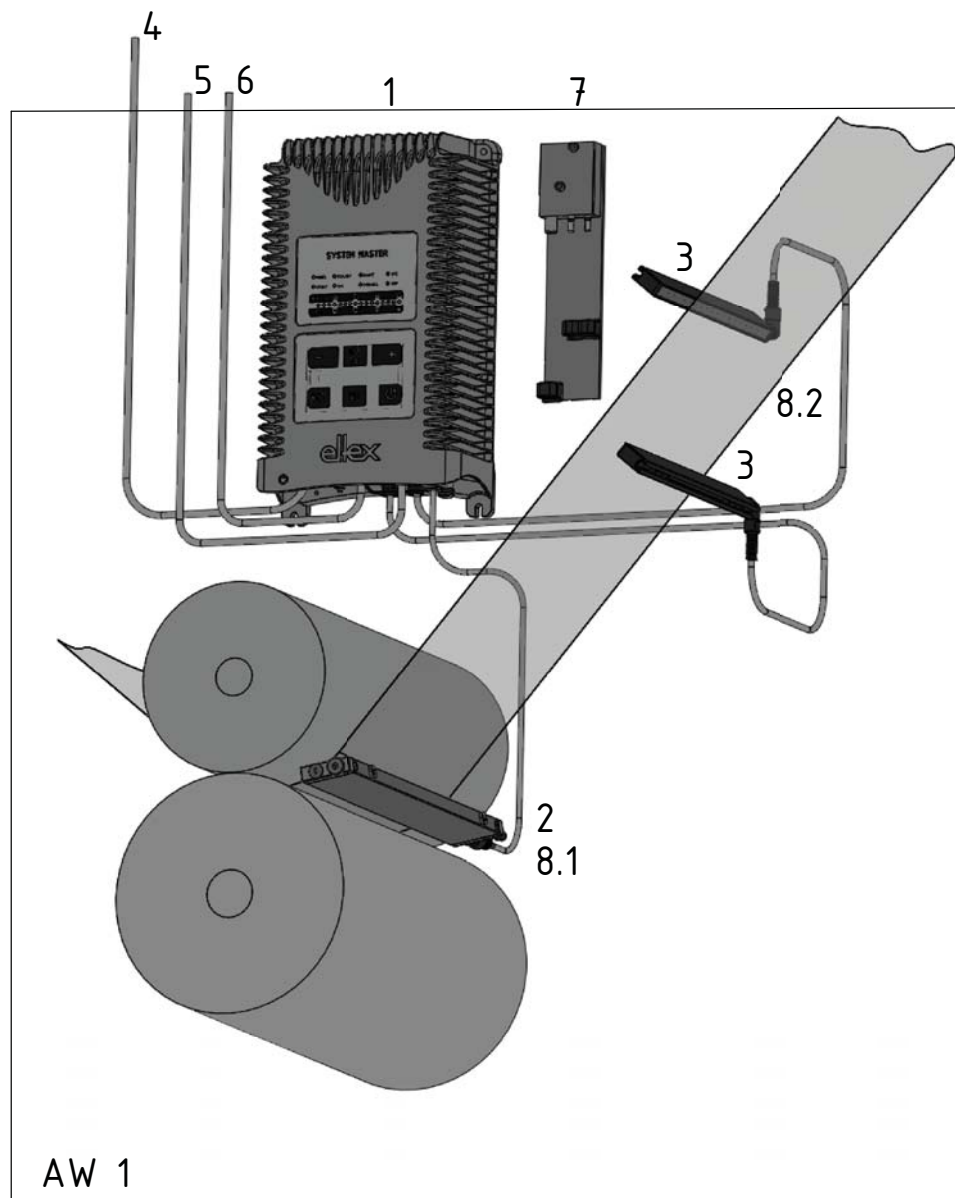

Fig 1:
If the MISTING TACKER system is switched off while the machine is running, any disconnected high voltage connectors must be grounded by qualified personnel! We recommend the use of our bar grounding PC, see Fig. 1, pos. 7. The bars passively absorb power from the running substrate web. This can lead to spark discharges at the high voltage connector and endanger personnel.